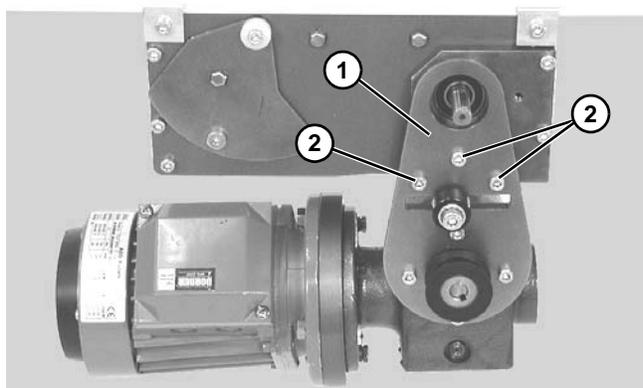

Figure 7
- Attach mount assembly (**Figure 7, item 1**) with mounting screws (**Figure 7, item 2**). Install long screws on bottom. Tighten screws to 80 in-lb (9 Nm).